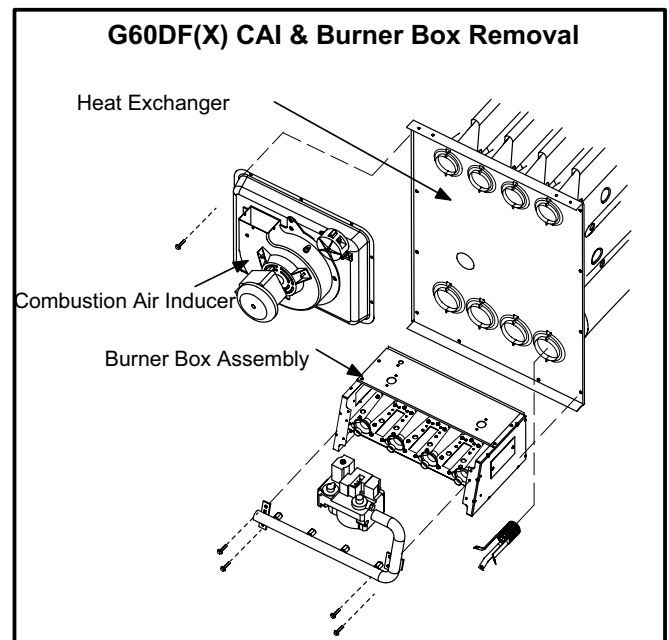

FIGURE 19
- 7 - Remove the four screws that secure the combustion air inducer. Carefully remove the combustion air inducer to avoid damaging the blower gasket. If the gasket is damaged, it must be replaced to prevent leakage. See figure 19.